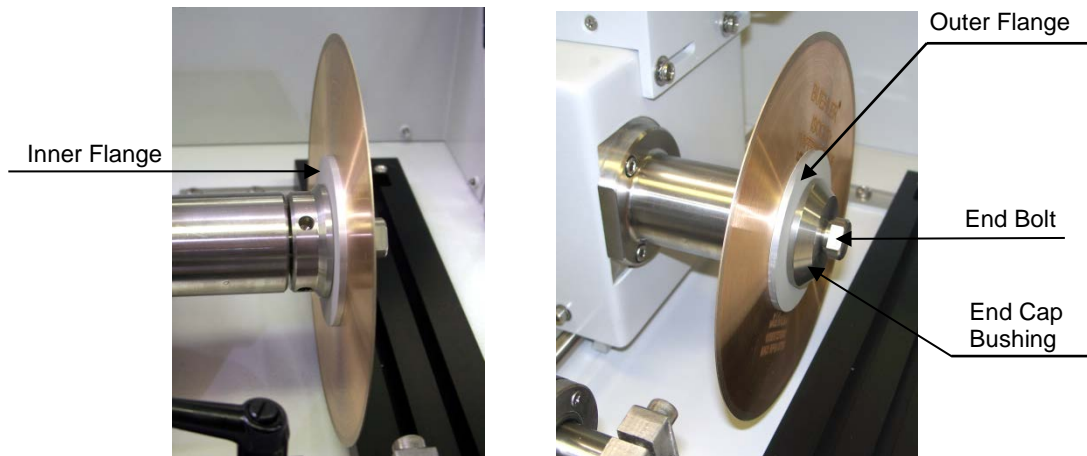

Figure 1 Blade Installation Diagram
1. Remove the end bolt and end cap bushing from drive shaft (see Figure 1).